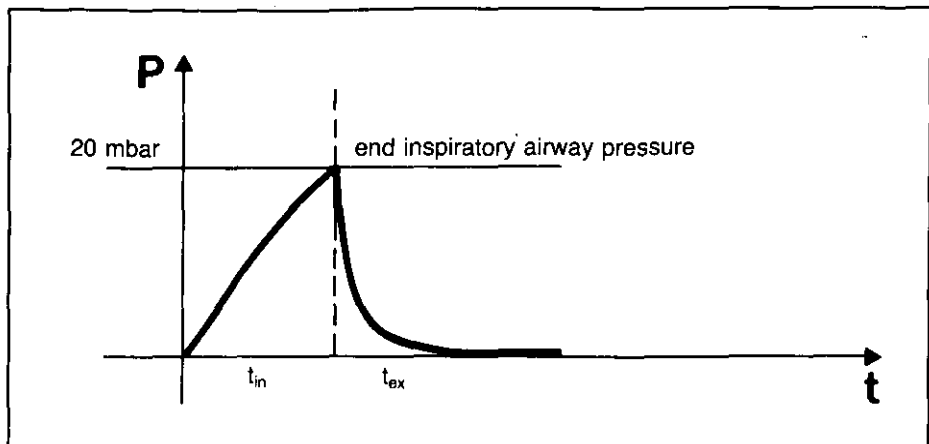

Fig. 3 Airway pressure curve for assumed setting without leakage (pressure limitation P_{in} to "max")
1. Ventilation without assumed leakage and without pressure limitation. The calculated and set flow leads to an end inspiratory pressure at the end of the set inspiratory time, if there is no leakage. The end inspiratory pressure depends on the compliance and resistance of the patient's lungs (Fig. 3).
An attempt is thus made to obtain an airway pressure curve of the type shown in Fig. 3. In order to limit the airway pressure upwards, the pressure limit P_{in} is set about 5 to 10 mbar above the end inspiratory airway pressure.